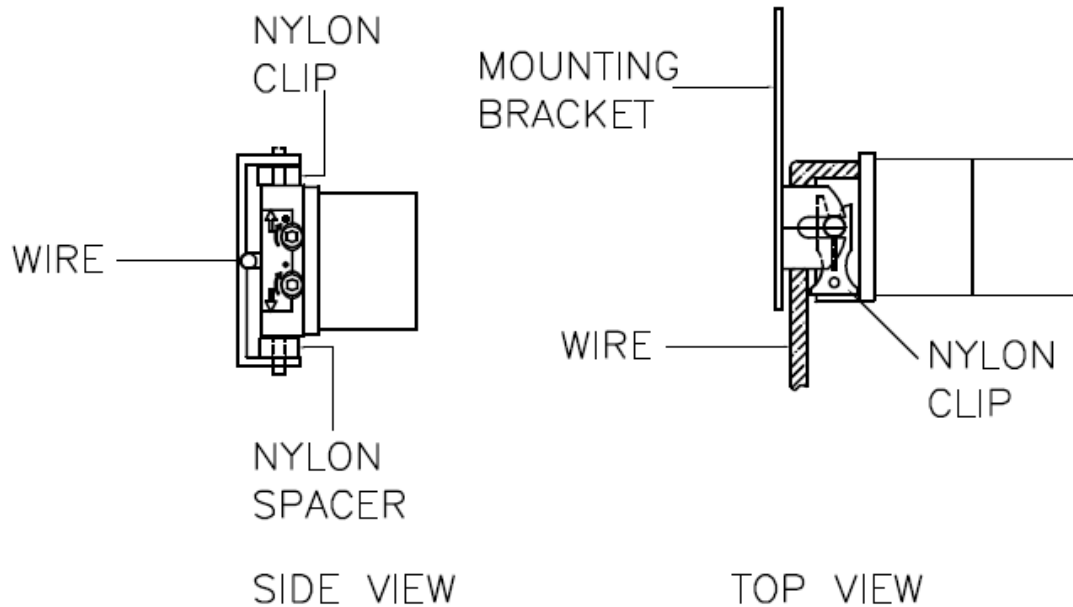

FIGURE 5
STEP 1. Hold the idler end of the tube approximately twelve inches below its mounting bracket. With the limit switch knobs facing out; fit the round nylon spacer onto the lower pin of the motor. Run the motor wire between the motor and the motor mounting bracket in the slot. Insert the lower pin into the motor bracket (**See Fig. 5**).
STEP 4. Install nylon clip on the upper pin of the motor the short side facing the screen. (**See Fig. 5**).
STEP 5. Mount the control station approximately four (4) feet above the floor.